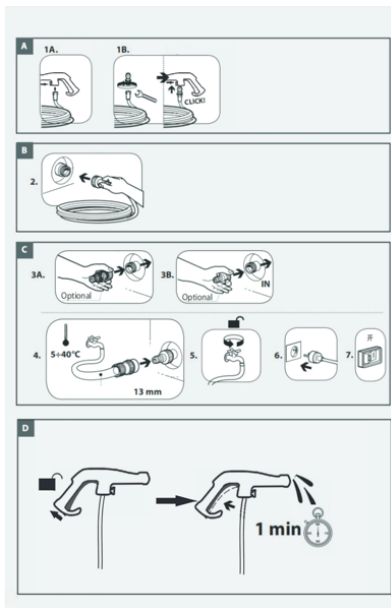

Fig 2
3. Fit the spray wand into the trigger gun and rotate it until the two parts are completely locked (Fig. 2)